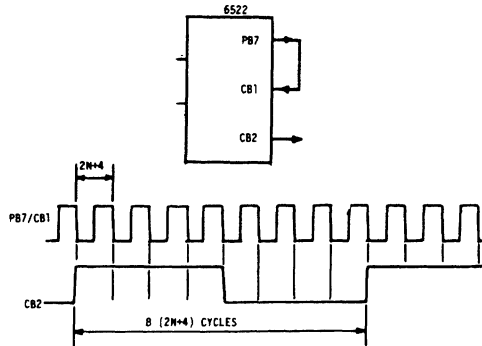

Figure 2 - Shift Register Output Waveform
2. The two 6522 timers may be connected externally (Figure 2), resulting in an effective 32-bit counter/timer. In this way, intervals longer than one hour may be achieved.
One way to extend the period is to use the PB7 output signal as a clock input to the shift register on the 6522. If a pattern of 11110000 is set into the shift register, then the output of the shift register will appear as Figure 2.